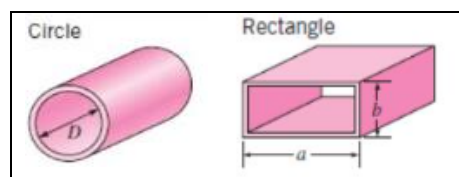

Fig.4 Circular and Rectangular (Non-Circular) pipes
2.1 Determine the coefficient of Darcy's friction factor under partial, half, Three-fourths and fully opening flow conditions for circular pipeline. The testing apparatus is illustrated in Fig. 4.